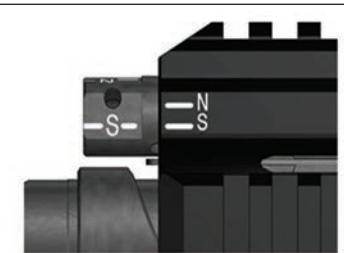

Fig. 15 – Gas block adjustment set to Suppressed (S)
- Intended for use with a suppressor installed (Fig. 15)